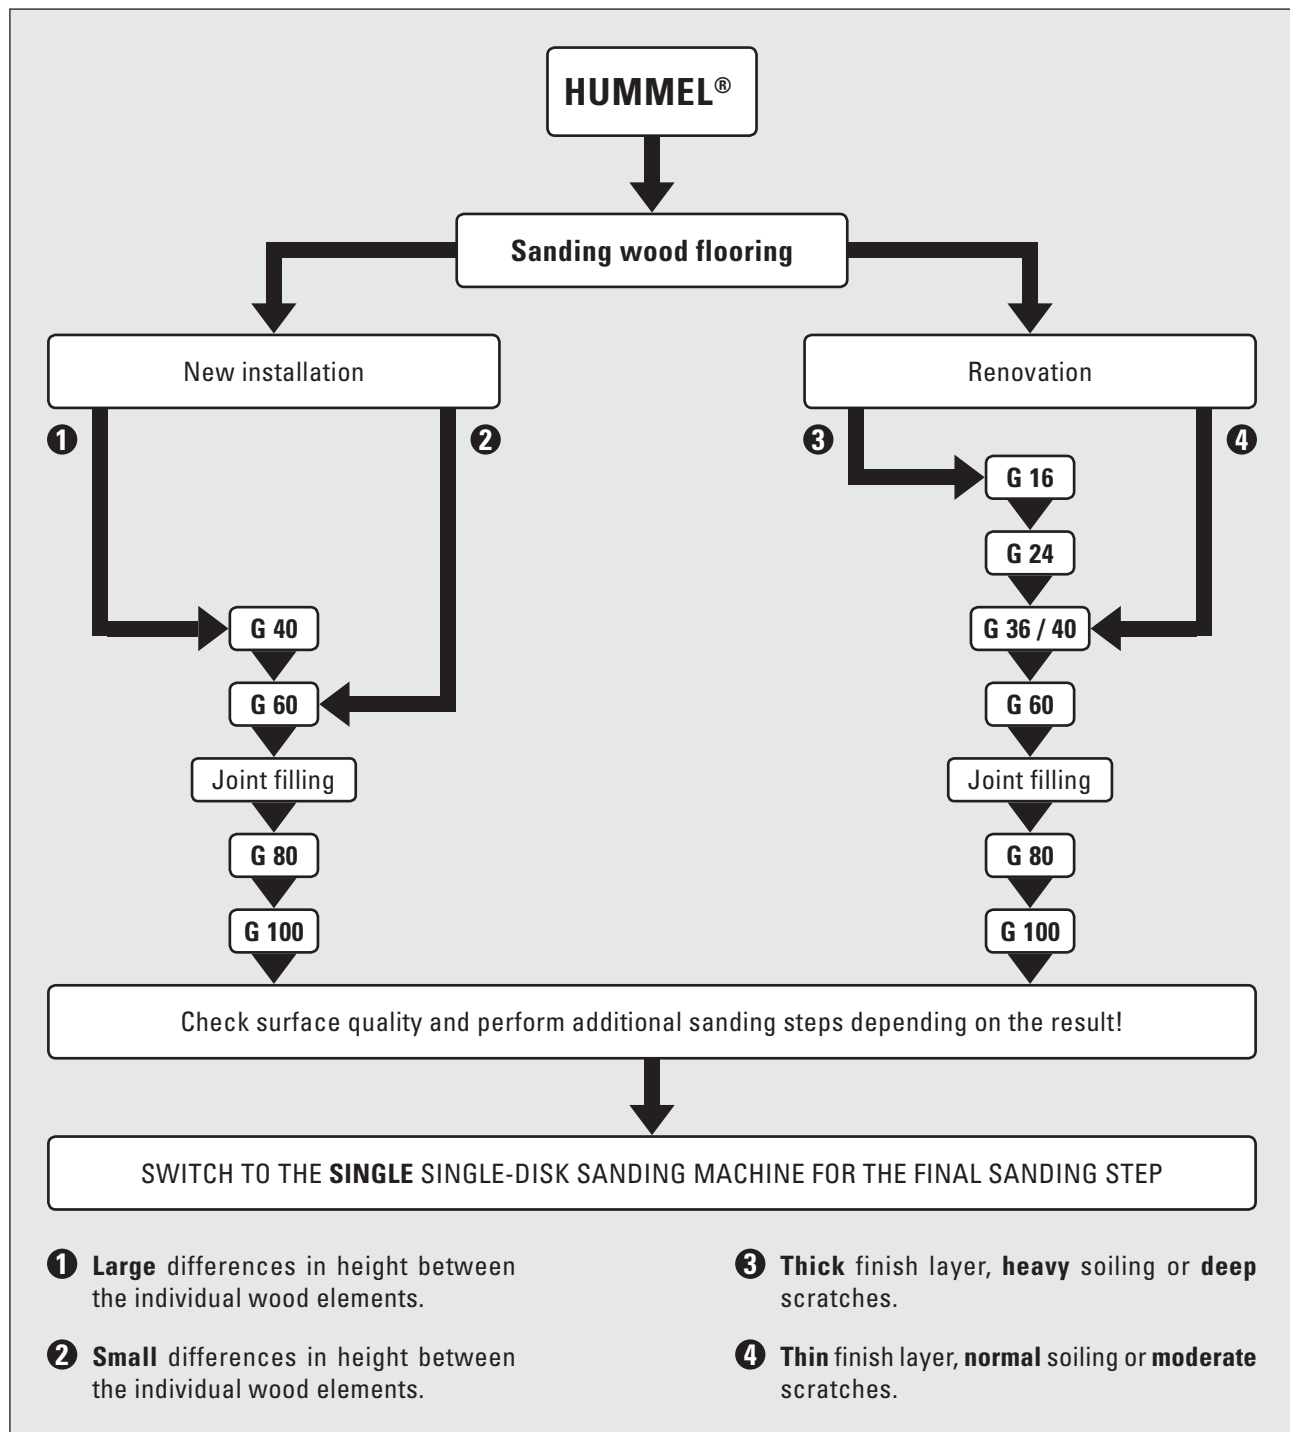

Fig. 21 Processing plan of the HUMMEL® belt sanding machine for the conventional method.
- In accordance with the conventional method, the fine sanding can also be carried out using the HUMMEL® (see *Section 6.1.1, Conventional method* and Fig. 21).
The methods used for sanding with the SUPERHUMMEL and with the HUMMEL® are similar; see the HUMMEL® processing plan, Fig. 21.
The PROFIT drum sanding machine is a lightweight and handy sanding machine which is primarily used in the rental market. It is standard equipped with a ~ 8" (200 mm) wide LÄGLER® centrifugal sanding drum and extremely easy to operate. The methods used for sanding with the PROFIT and with the HUMMEL® are similar; see HUMMEL® processing plan, Fig. 21.